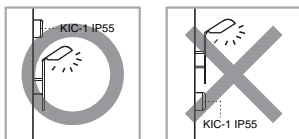

FIG.1
- Avoid any artificial illumination sources to aim at KIC-1 IP55 directly such as the connected lightings (See FIG.1).